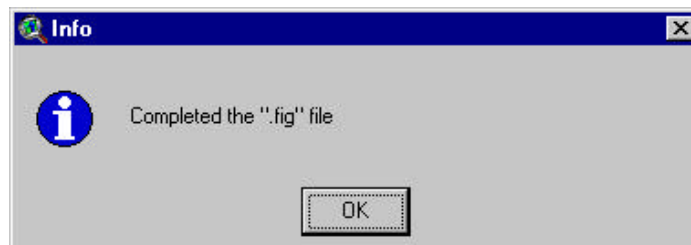

Figure 8.14
- a. To write SWAT input databases individually, begin by selecting the **Write Configuration File (.fig)** command from the **Input** menu (or press `Ctrl+C`). This selection generates the watershed configuration file (see *Soil and Water Assessment Tool User's Manual, Version 2000*, Chapter 2 and Appendix B). When the file has been written, a message box will pop up (Figure 8.14).